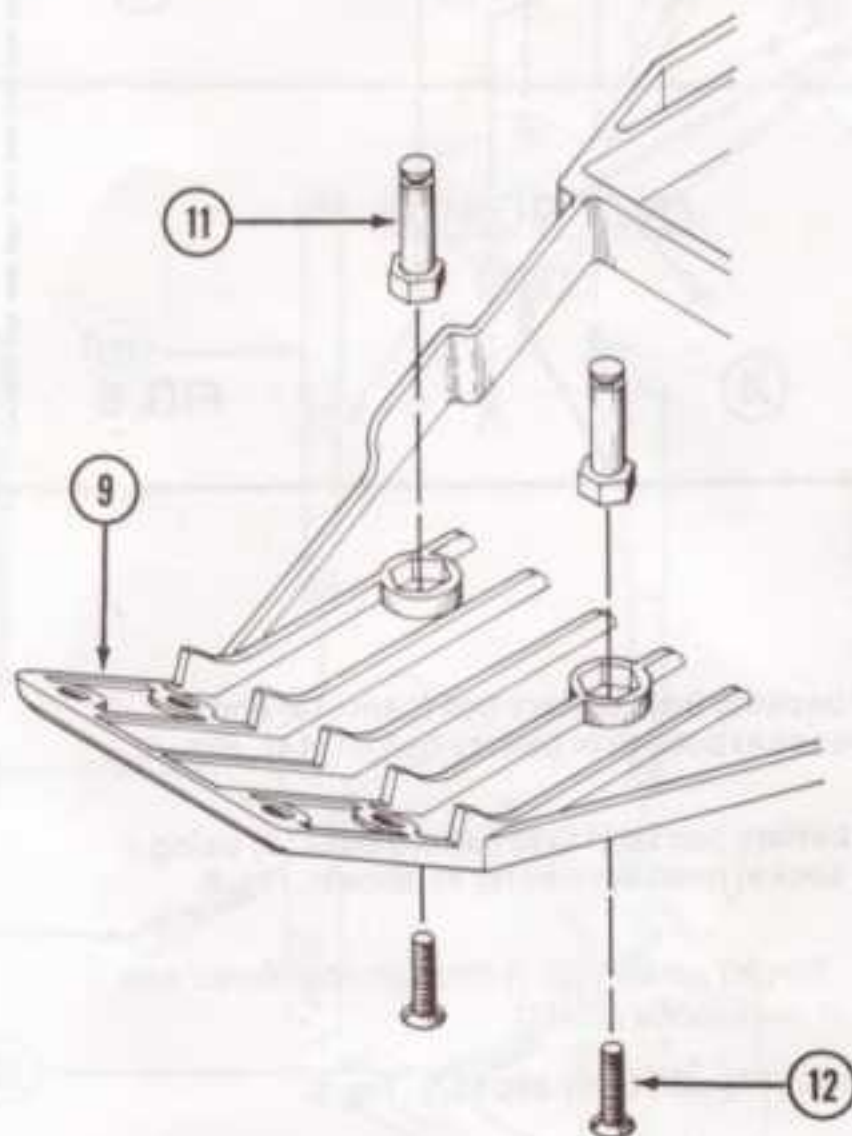

FIG. 4
5. Secure steering posts (11) to chassis (9) as shown using two 4-40 x 3/8" flathead screws (12). Fig. 4